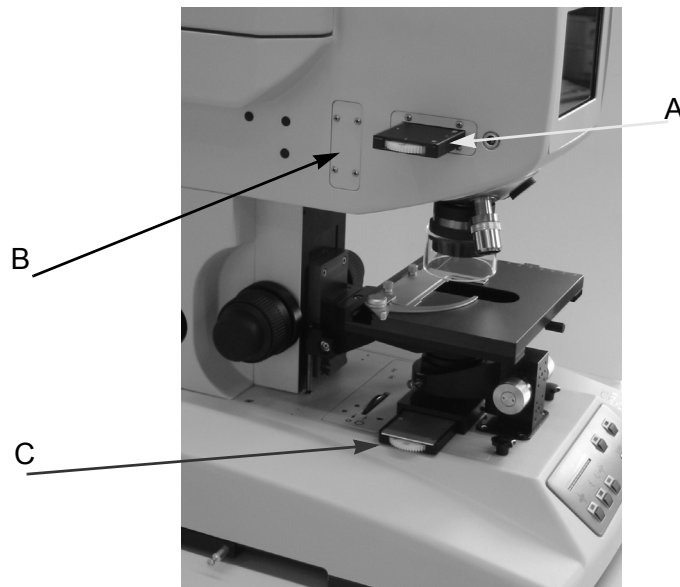

Figure 52: Polarizer Locations
The analyzer in position (A in figure 52) can be used for both measurement modes: transmittance and reflectance mode. For viewing the sample surface in reflectance mode using crossed polarizers, a second polarizer can be inserted at location (B in figure 52). To perform analysis with polarized light in transmittance mode, a second polarizer has to be inserted at location (C in figure 52). The holders are interchangeable and can be inserted at location (A), (B), or (C). For IR-spectroscopic measurements, usually one IR-polarizer either in position (A), (B) or (C) is sufficient.